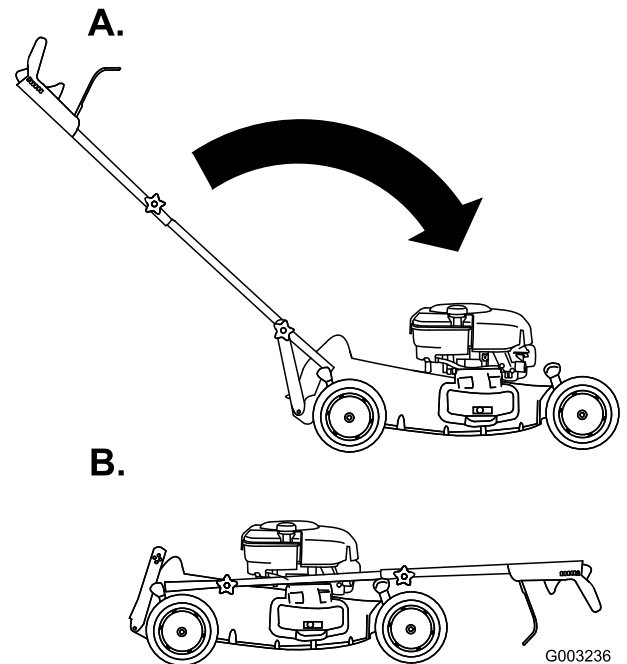

Figure 43
2. Rotate the handle forward (Figure 43).